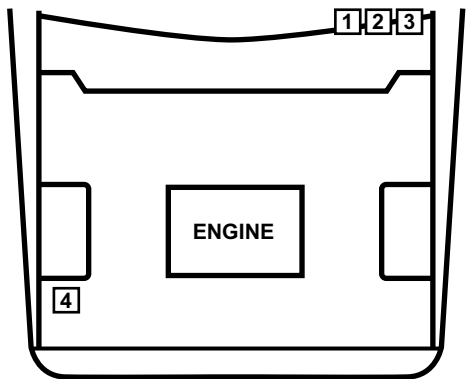

Figure 15-2 1983–84 Turbo common connector locations
- “1983–84 Turbo common connector locations” on page 176 (Table 15-2, Figure 15-2)